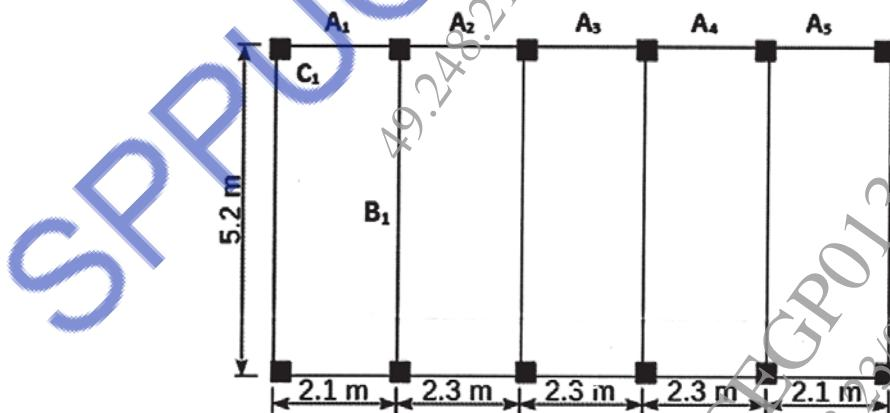

Fig. 1
- Q2)** a) Figure 1 shows the floor plan of a building. The beams are of size 230 mm \times 450 mm. Beam B_1 is reinforced with 4-16# bars in tension and 2-10# in compression. The load on the slab is 6 kN/m^2 . Design the beam for shear. Adopt M-25 grade of concrete and Fe-500 grade of steel. Sketch the details of reinforcement. [14]
- Q3)** a) For the floor plan shown in Fig. 1, design the continuous beam $A_1-A_2-A_3-A_4-A_5$. The total load on the slab is 5.5 kN/m^2 . Design the beam using M-20 grade concrete and Fe-500 grade of steel. Sketch the details of reinforcement. [15]
b) For the floor plan shown in Fig. 1, design column C_1 . Show how the column is oriented. The column is subjected to working load of 700 kN , working moment of 90 kN-m about major axis bisecting the depth of column. The unsupported length of column is 4.0m . The column is fixed at both the ends. Show detailed design calculations and reinforcement details. Use M-30 grade concrete and Fe-500 grade of steel. [14]